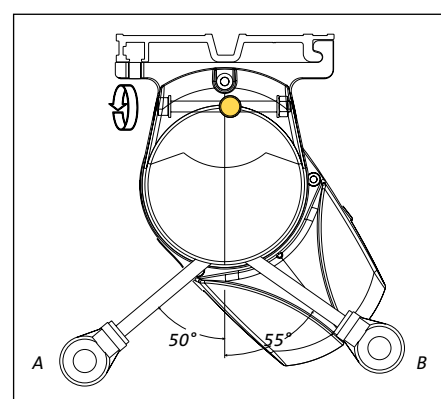

Fig. 12 : Crank handle operation exit with ceiling mounting
- With assembly against the ceiling : please reckon with enough space for the fixing and the setting of the angle at the back. (see fig. 12)